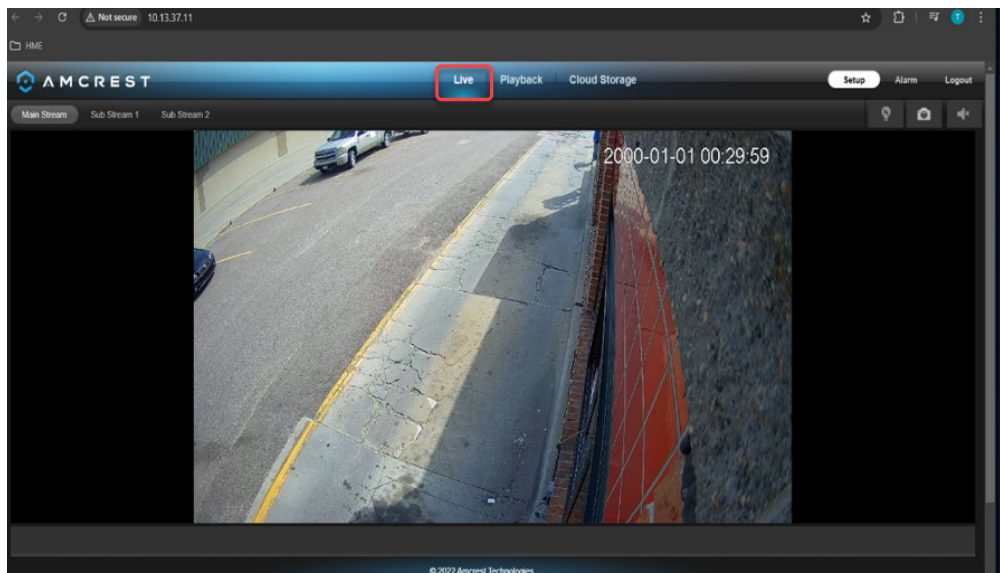

Fig. 2.4
3. With the configuration now set and a live view displayed (Fig. 2.4), you may need to adjust the camera to get the best, unobstructed view of the target location.